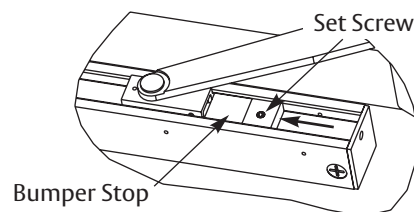

Figure 12
- Tighten set screw in bumper stop so bumper will stay in position. (Figure 12)